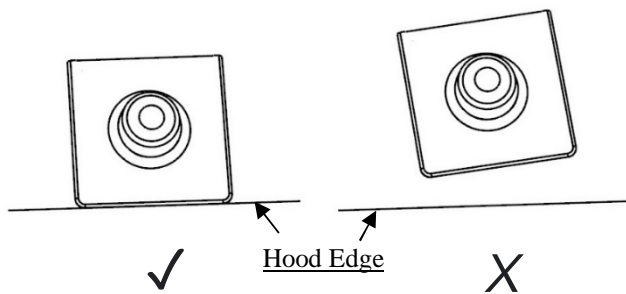

Fig 7
- ⚠ ATTENTION: Pedestals must be installed on directly on hood edge. (Fig 7)**